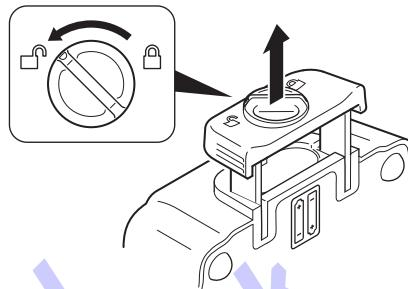

Figure 68 – Access Foot Pedal Batteries
- Turn the battery compartment knob to unlock and open the door (Figure 68).